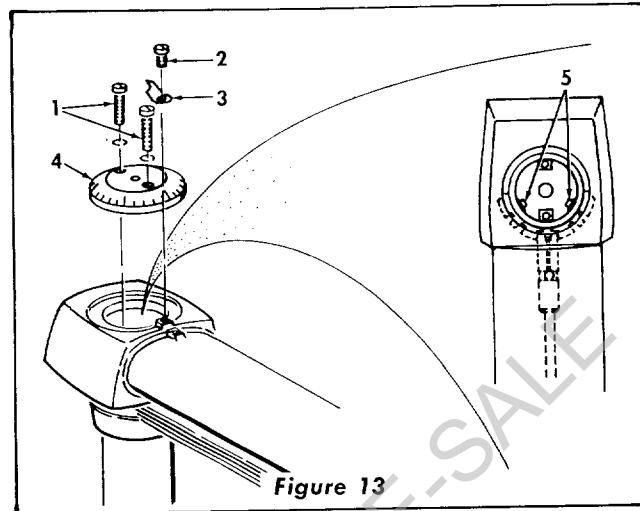

Figure 13
- a. Remove three screws (Item 1 and 2, figure 13), indicator (Item 3) and radial arm cap (Item 4).
- e. Retighten socket head screws (Item 5, figure 13) and arm latch handle.
- g. After blade is square to fence reassemble radial arm cap and indicator using screws (Item 1 and 2, figure 13). Set indicator at 0°.